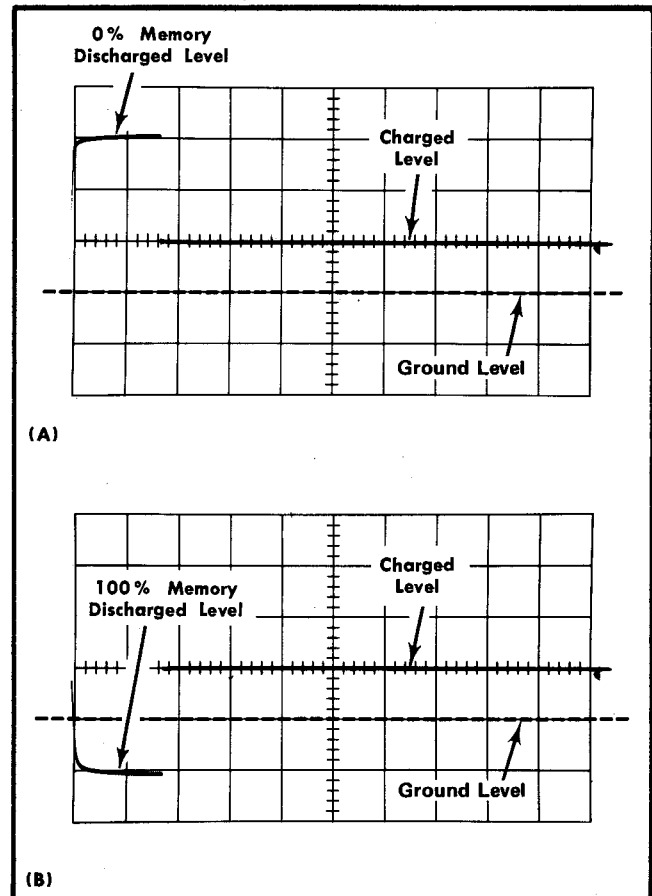

Fig. 7-4. Test oscilloscope display of (A) output of 0% Memory and (B) output of 100% memory.
- CHECK—Test oscilloscope display (see Fig. 7-4): Channel A 0% Memory discharged level 6.0 volts ± 0.5 volt above the ground reference set up in part g of this step.
- CHECK—Test oscilloscope display (see Fig. 7-4): 100% Memory discharged level 2.0 volts ± 0.5 volt below the ground reference level.